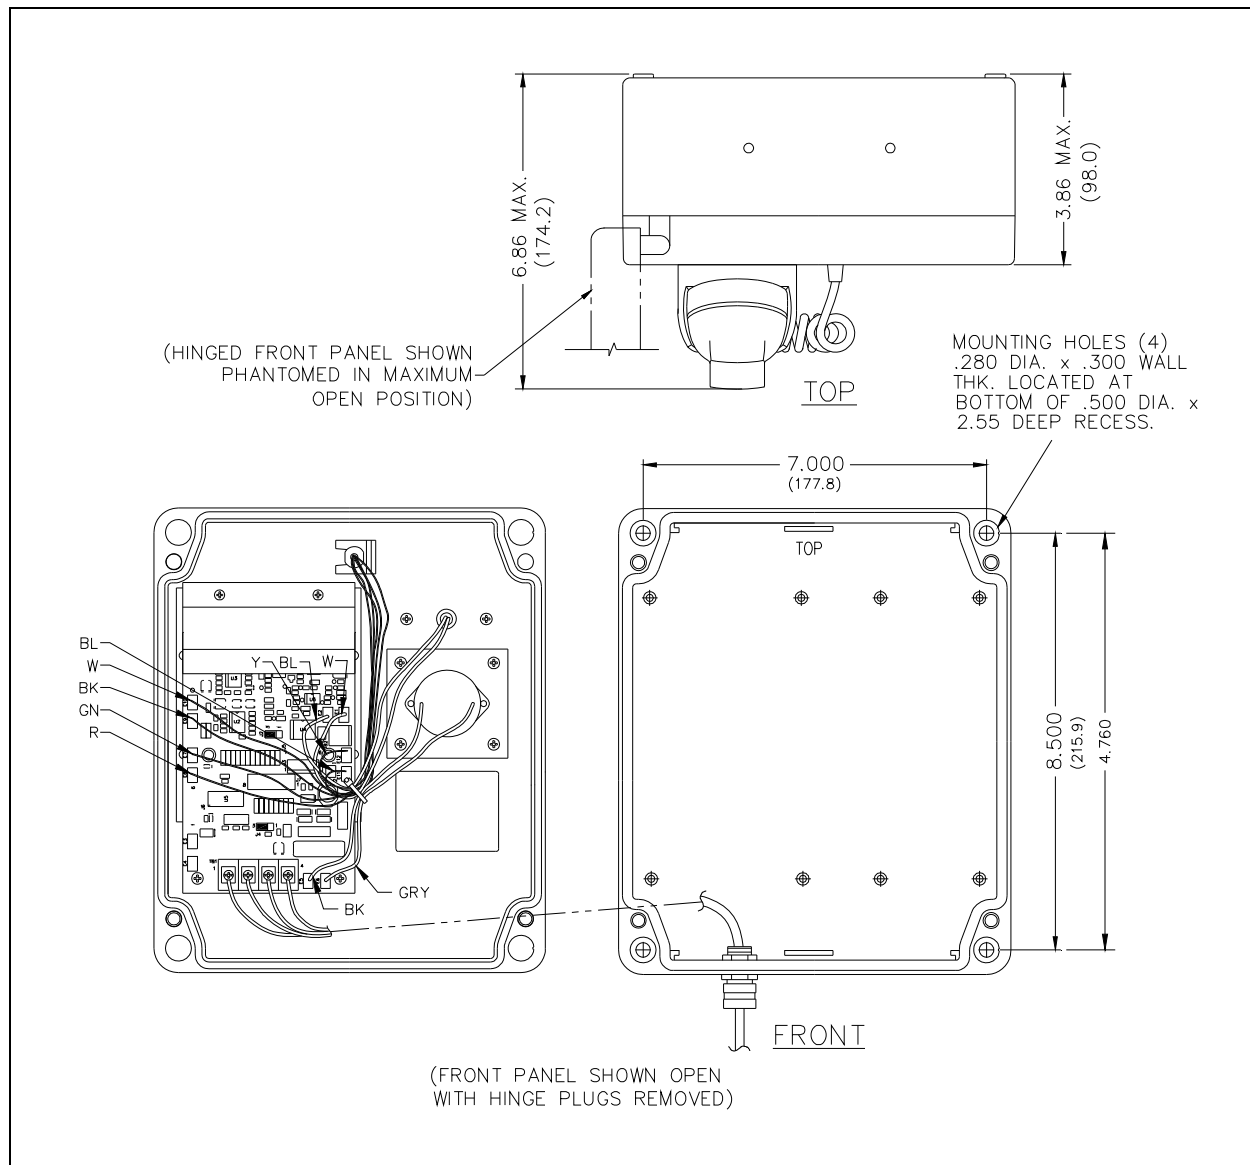

Figure 8. Model 247-001 Mounting Diagram
5. There are four mounting holes in the rear enclosure. Mount the enclosure to the wall using either four 1/4-20 machine screws with nuts and washers, or #14 wood screws of appropriate length for the mounting surface. Refer to Figure 8.